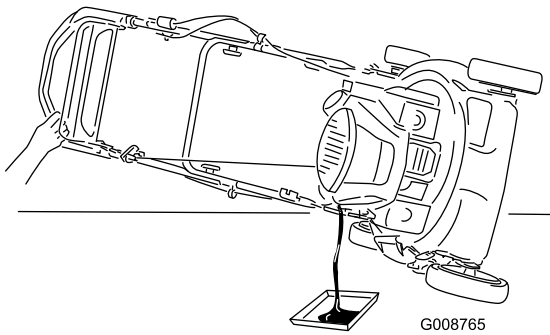

Figure 42
3. Tip the mower onto its side, with the air filter up, to drain the used oil out through the oil fill tube (Figure 42).